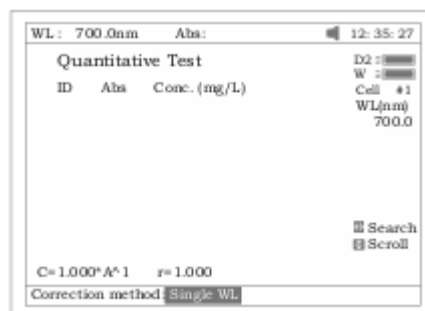

Fig.28
2. Press **【SETλ】** to select correction methods and enter the wavelength. There are three correction methods (single, Isoabsorbance and 3-point, Fig 28)